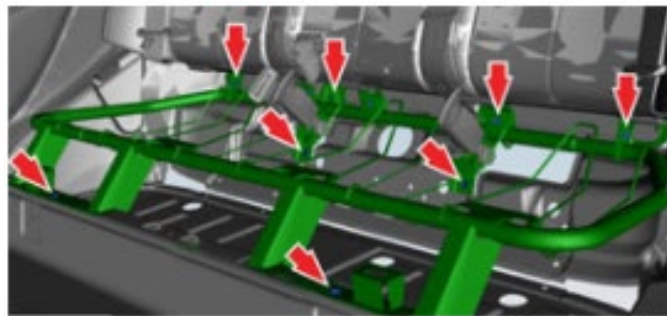

Figure 1
4. Remove the bolts (x8) that attach the seat frame to the body and all clips that attach cables to the 2nd row seat frame (Figure 1).